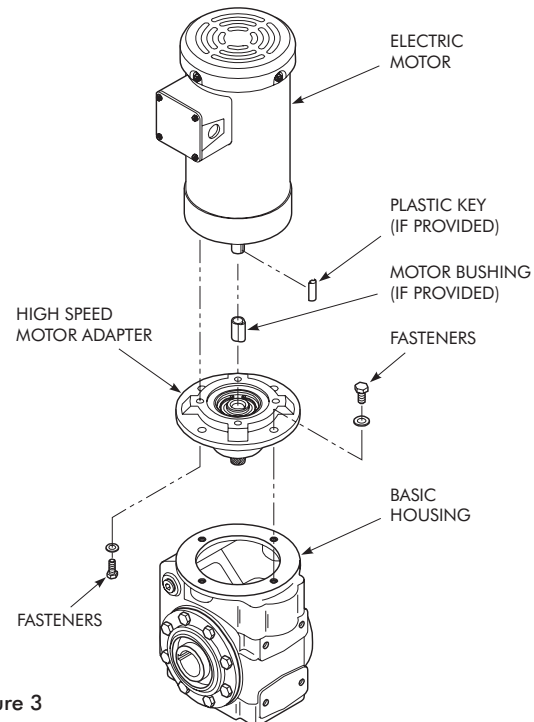

Figure 3
1. Place basic housing on a workbench so that high speed end is facing up as illustrated in Figure 3 at right. If necessary, block housing so that it is stable and level.
PROCEDURE M — Figure 3
1. Place basic housing on a workbench so that high speed end is facing up as illustrated in Figure 3. If necessary, block housing so that it is stable and level.